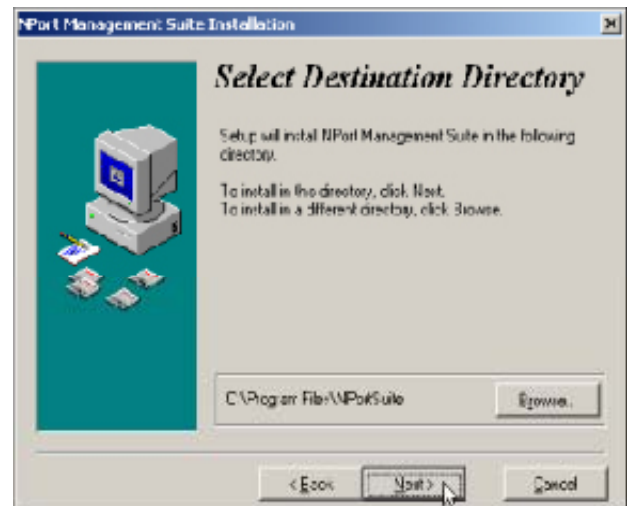

Figure 2-26
6. The **Select Destination Directory** window opens. **Figure 2-26**